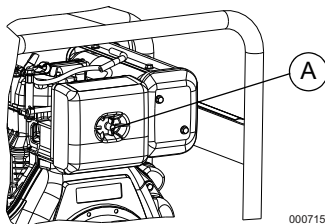

Figure 4-3. Air Filter Assembly
1. See Figure 4-3. Turn knob (A) and remove air filter cover.